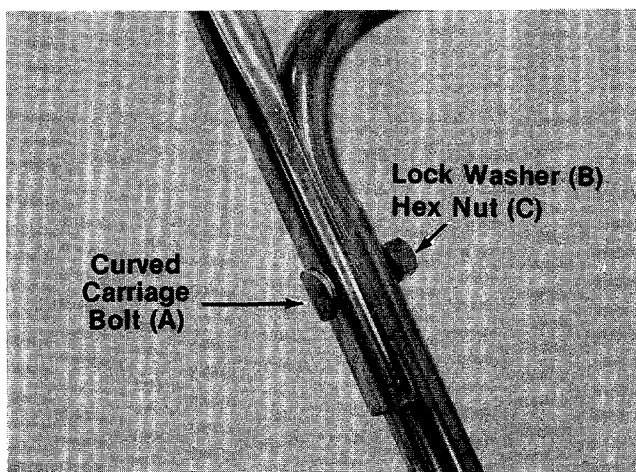

FIGURE 4.
5. Place upper handle in position over lower handle. Control housing should be on the **left** side of the handle. Secure upper handle with two curved head carriage bolts (A), lock washers (B) and hex nuts (C). See figure 4.